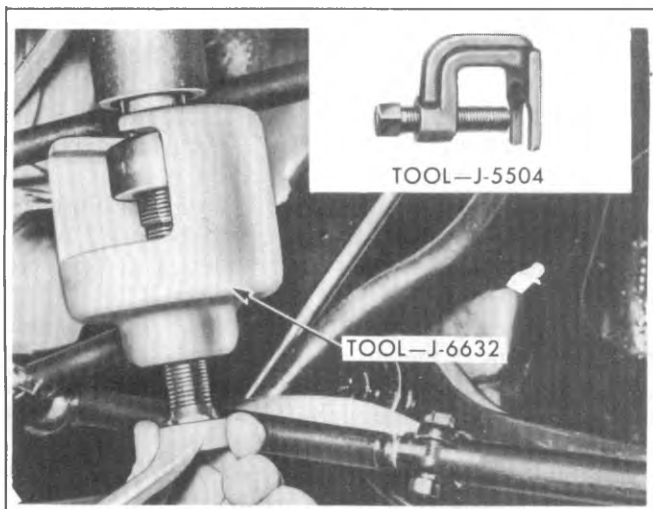

Fig. 3B-50--Removing Pitman Arm-Typical
3. Mark the relationship of the pitman arm to the pitman shaft. Remove the pitman shaft nut or pitman arm pinch bolt and then remove the pitman arm from the pitman shaft using Puller J-6632 (fig. 3B-50).